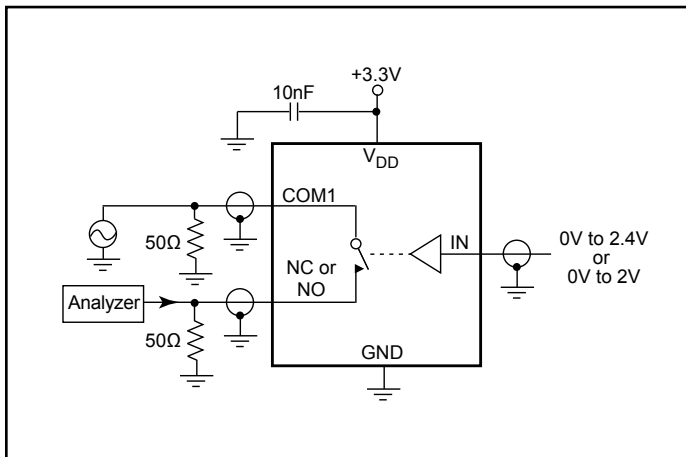

Figure 3. Off Isolation
4. Off Isolation =  $20\log_{10} [ V_{COM} / (V_{NO} \text{ or } V_{NC}) ]$ . See Figure 3.